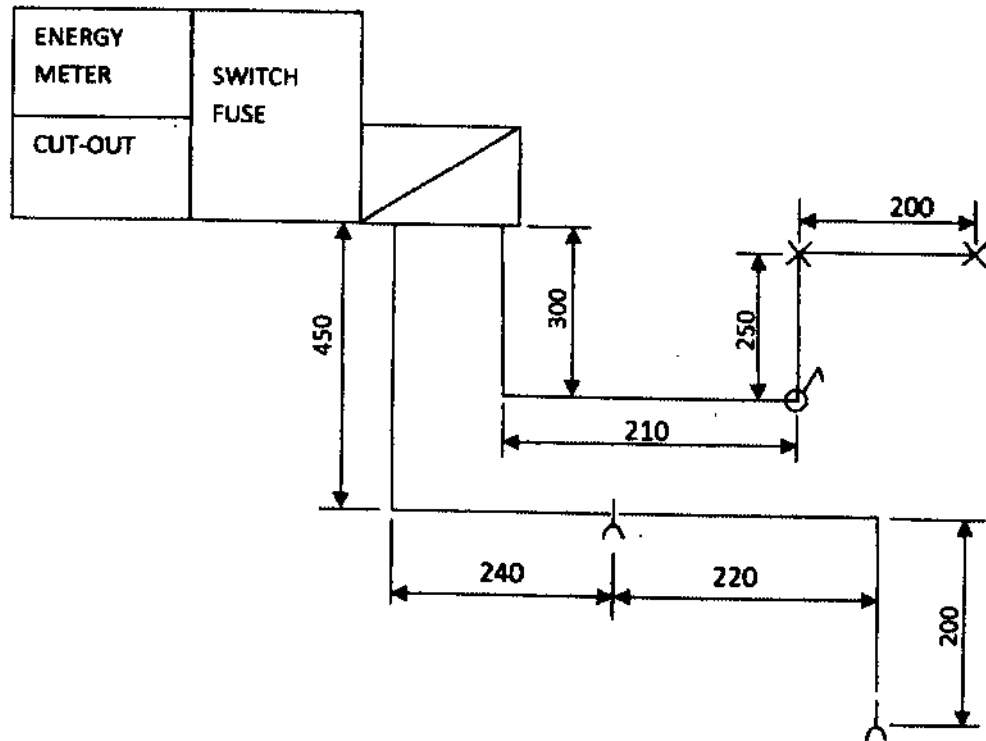

FIG 1
1. Figure 1 shows the layout of control gear equipment and two final sub-circuits. The control gear is pre-installed.